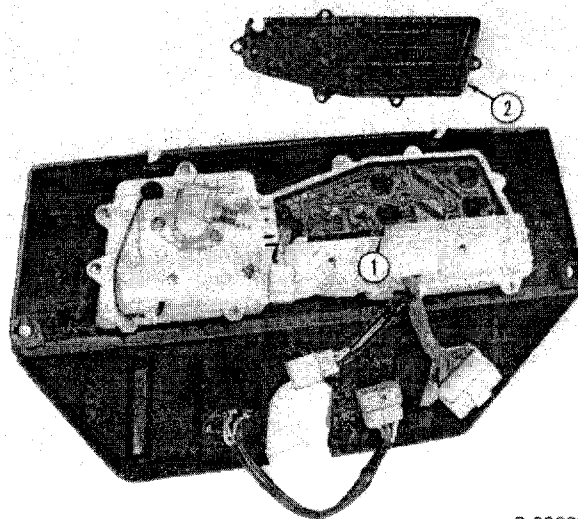

Figure 14
3. Remove the panel (2), Figure 14.
4. Turn the glow plug indicator light socket (1) counterclockwise and remove it from the panel.
If the indicator lamp is not functioning, remove the instrument panel mounting screws and raise the instrument panel sufficient to remove the circuit board cover, Figure 14.